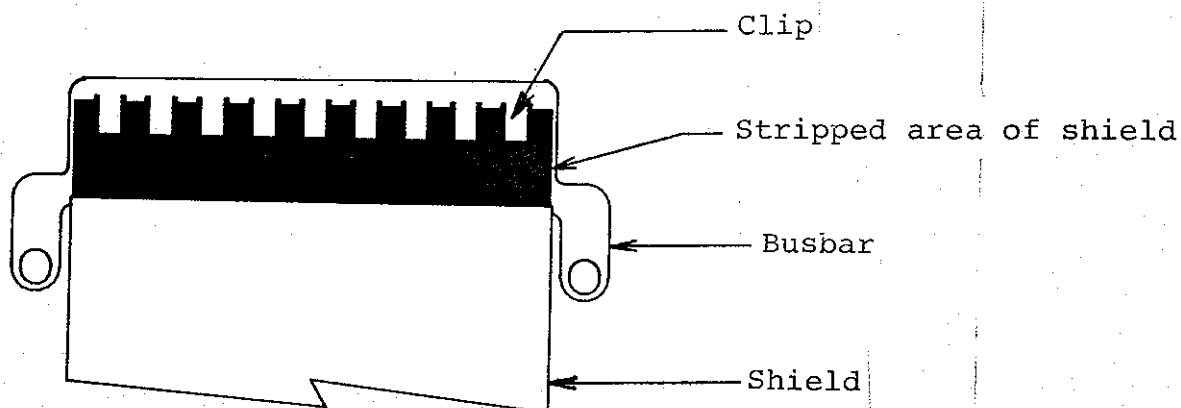

Figure 7. Inserting Prepared Inter-Layer Shield into Clips of Busbar
8. Insert the end of the shield into the clips at the rear of the busbar as shown in Figure 7.